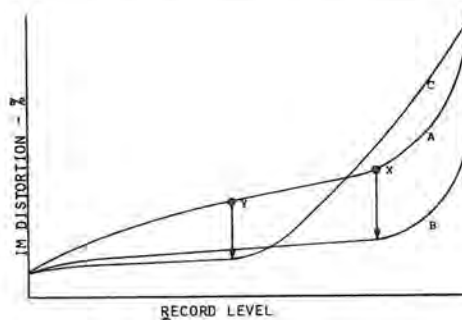

Figure 36
Curve "A" in Figure 36 shows the distortion VS record level for a typical tape.
2. Slowly increase the RECORD LEVEL (turn the front panel control) until the IM analyzer shows a distortion reading of about 3%. (Shown as point X in Figure 36, page 5-24.)
A distortion VS record level curve similar to curve "B" in Figure 36 should result.
THE AUDIO LEVEL **MUST** BE HIGH ENOUGH TO PRODUCE 3% IM DISTORTION BEFORE THE RECORD LINEARITY CONTROL IS ADJUSTED. IF THIS ADJUSTMENT IS MADE AT A LOWER AUDIO LEVEL (SUCH AS POINT "Y" IN FIGURE 36) A RECORD LEVEL VS DISTORTION RESPONSE SIMILAR TO CURVE "C" IN FIGURE 36 MAY RESULT.